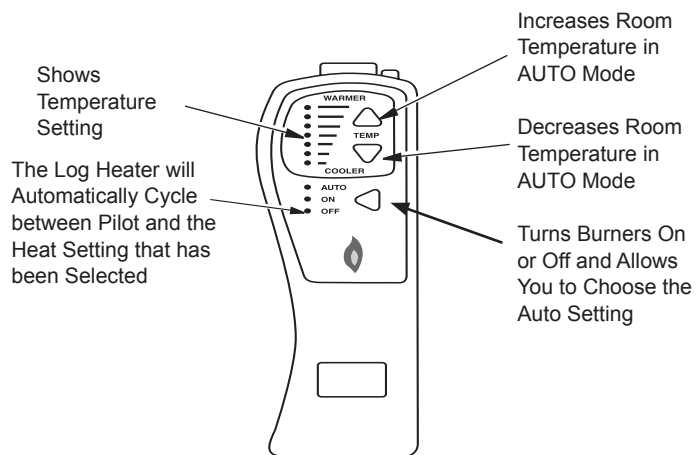

Figure 21 - Thermostat Hand-Held Remote Control Unit Selections (GHRCTB Only)
- 2a. Press the AUTO/ON/OFF button on the hand-held remote control (see Figure 21). The lights to the left of the button will show **AUTO**, **ON**, or **OFF**.